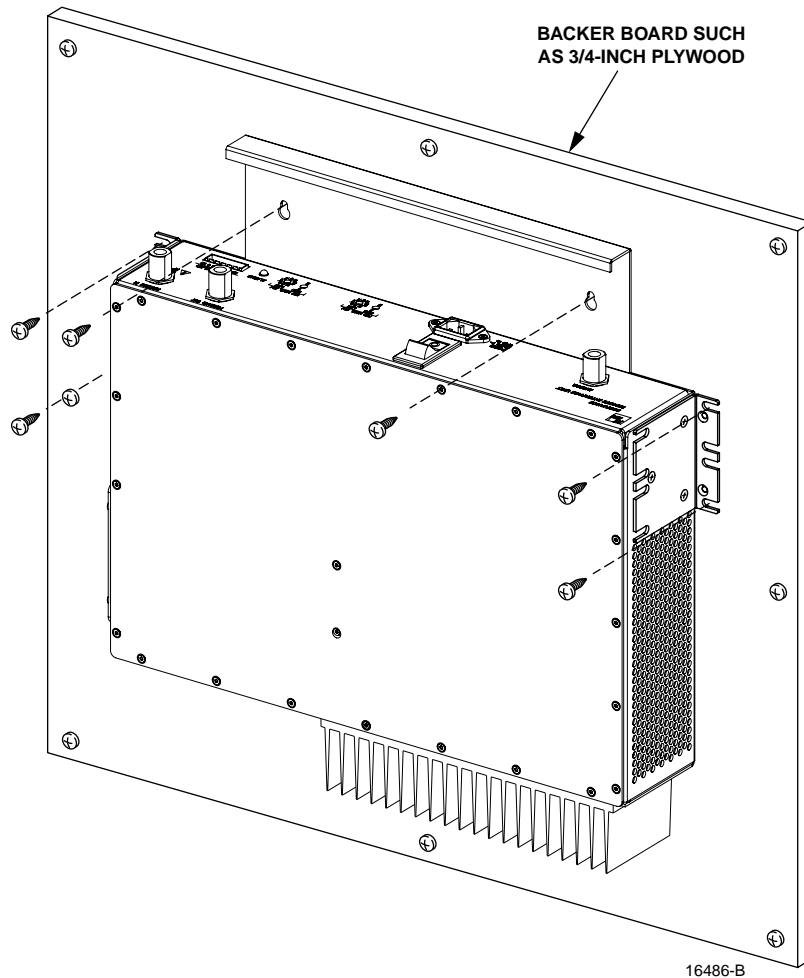

Figure 7. RIU Wall-Mount Installation
5. Position the RIU on the mounting surface in the specified location (per the system design) with the front panel facing up as shown in Figure 7.